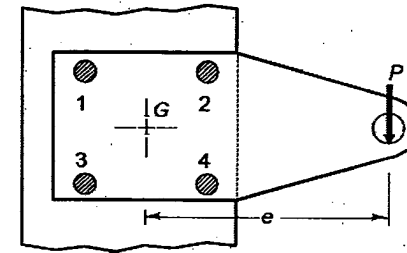

Fig. 1
- b) What are the assumptions in the analysis of bolted joints? The structural connection shown in Fig. 1 is subjected to an eccentric force P of 10 kN with an eccentricity of 500 mm from the CG of the bolts. The centre distance between bolts 1 and 2 is 200 mm, and the centre distance between bolts 1 and 3 is 150 mm. All the bolts are identical. The bolts are made from plain carbon steel 30C8 ($S_{yt} = 400 \text{ N/mm}^2$) and the factor of safety is 2.5. Determine the size of the bolts.